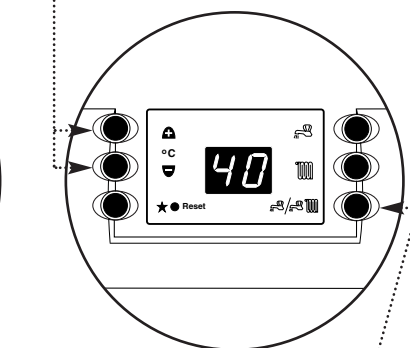
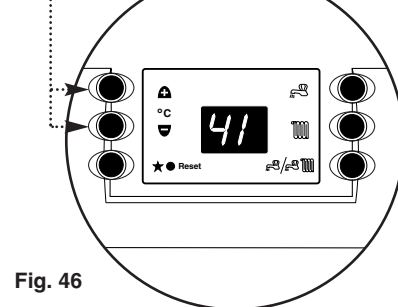

Fig. 45
Fig. 46
3. Repeatedly press the Summer/Winter Mode Button marked () until the display shows "40" (Fig. 45). The "4" indicates that the installer parameter for filling the system has been selected. The "0" indicates that the installer parameter for filling the system is switched off. Press the "+" Temperature Control Button so that the display shows "41" (Fig. 46). The "1" indicates that the installer parameter for filling the system is switched on. The diverter valve will now move to the central heating position and stay there until reset as below. Purge through manual air vent on boiler and radiators, ensure auto air vent is open and manually bleed pump before continuing with steps 4 and 5 (**NOTE:** The boiler will not fire until the steps 4 and 5 have been carried out).
5. Repeatedly press the Summer/Winter Mode Button marked () until the display shows "41" (Fig. 46). The "4" indicates that the installer parameter for filling the system has been selected. The "1" indicates that the installer parameter for filling the system is switched on. Press the "-" Temperature Control Button so that the display shows "40" (Fig. 45). The "0" indicates that the installer parameter for filling the system is switched off. The diverter valve will now return to normal operation. **The display will revert to normal operation 1 minute after the parameter has been set.**